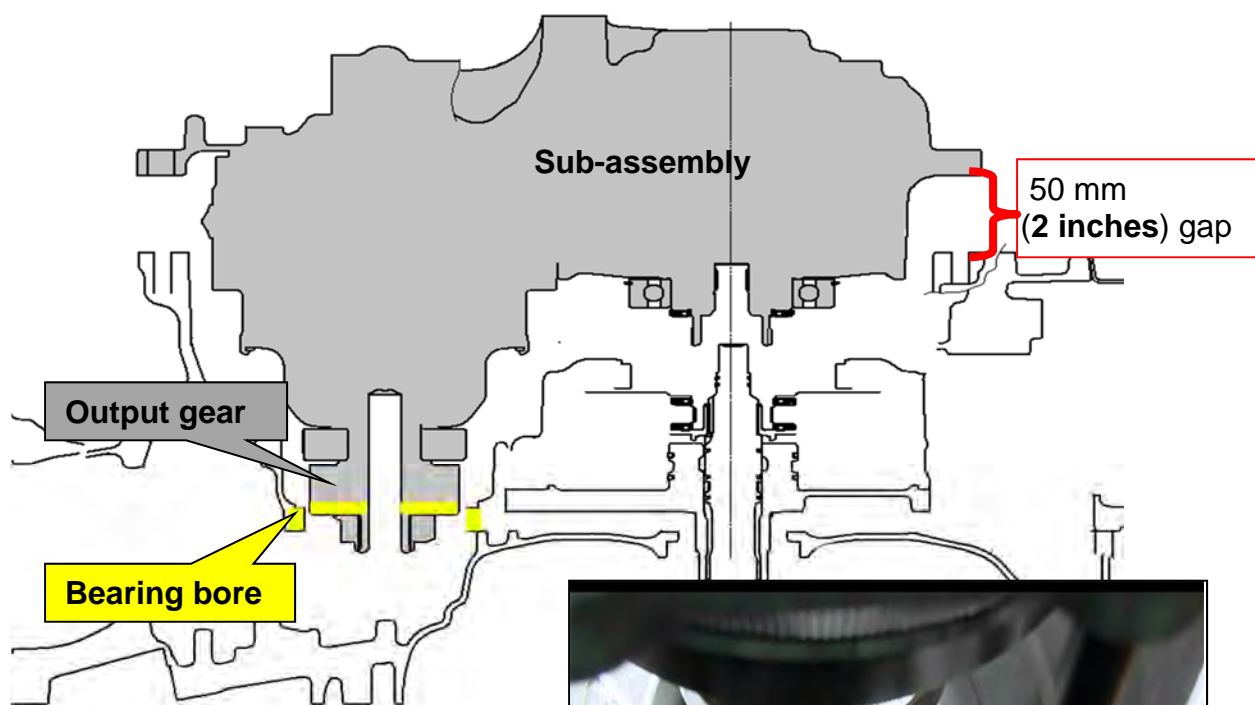
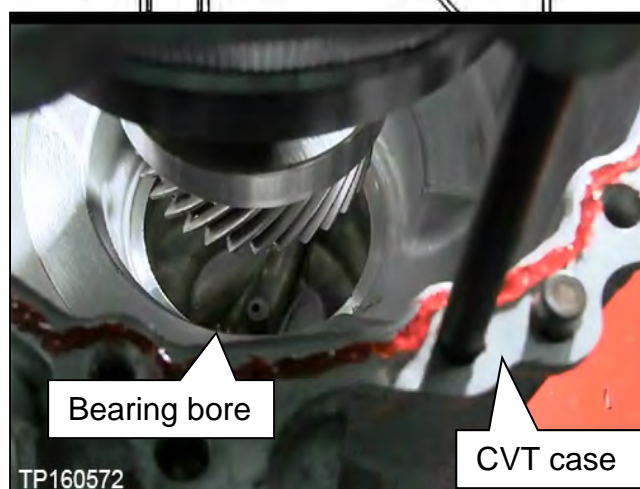

Figure 94
Figure 95
- While visually looking down into the bore (Figure 95) to confirm that the output gear is clearing the CVT case bearing bore,
- If the sub-assembly will not lower any farther than 50 mm (2 inches) the output gear has not cleared the bearing bore (Figure 95).
- Interference is present between the output gear and bearing bore and are highlighted with yellow in Figure 94 and Figure 95.